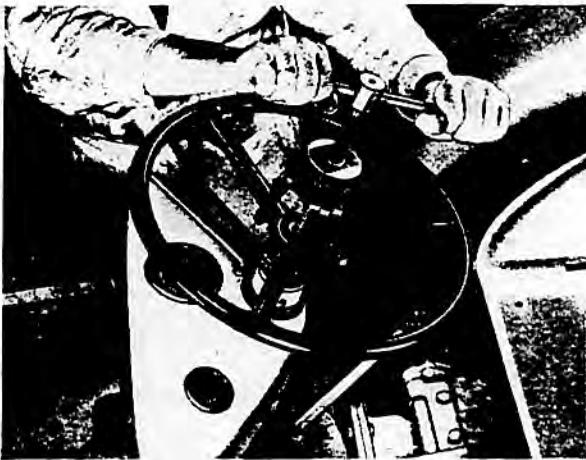

FIG. 6
2. Remove steering wheel nut and washer. Using Service Tool, MFB.8, or a similar tool, as shown in Fig. 6, remove steering wheel. Remove woodruff key, felt washer, steering column cover and grease nipple.